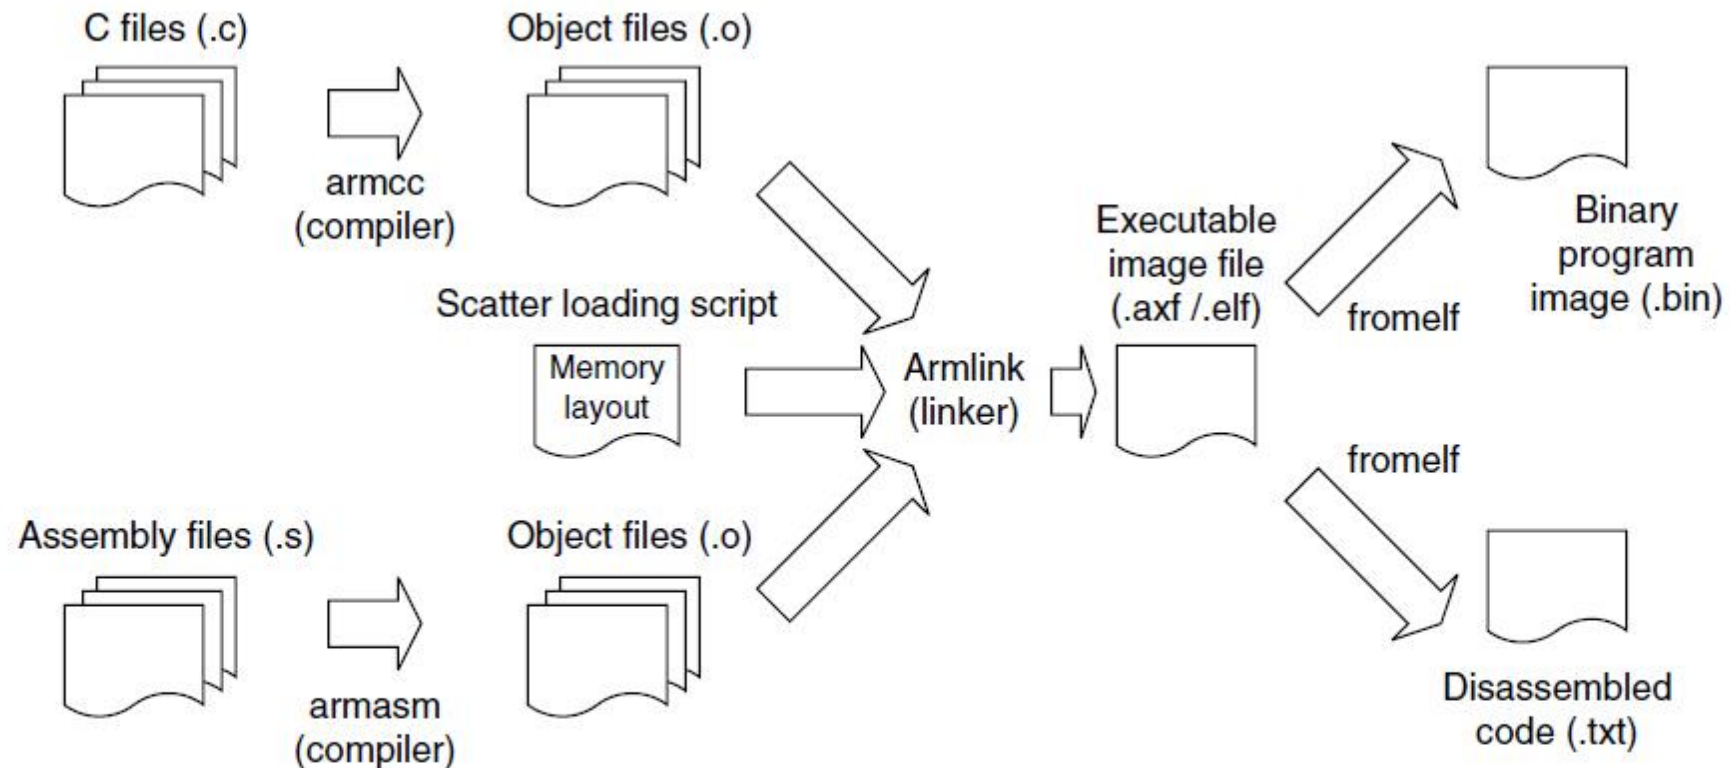

FIGURE 10.1
- For ARM solutions, the RealView Development Suite (RVDS) or RealView Compiler Tools (RVCT) provide a file generation flow, as shown in Figure 10.1.